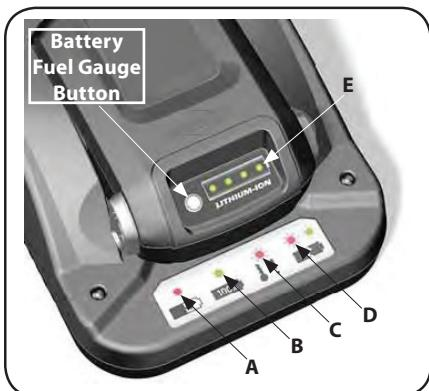

Figure 4-10
As Required - To check available charge, press the Battery Fuel Gauge button and charge if required. See Figure 4-10. Refer to the **Battery Fuel Gauge** section on page 14.
- Red light (A, Figure 4-10) indicates battery pack is charging normally.
- Green light (B) indicates battery pack is fully charged.
- FLASHING red light (C) indicates battery pack is either too hot or too cold and will not accept a charge. Leave battery pack connected and when normal operating temperature is reached it will automatically start charging.
- FLASHING red/green lights (D) indicate that battery pack will not charge and must be replaced. See Lithium Ion Battery Pack Disposal section.
To check available charge, press the Battery Fuel Gauge button. The display lights (E, Figure 4-10) will indicate the approximate amount of charge remaining in battery pack.